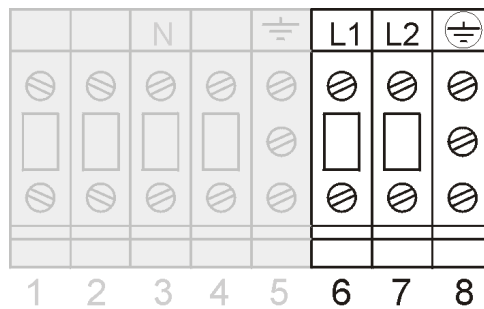

Figure 10. LP11 924 6&10 kVA:
3. Connect the utility supply wires to terminals 6 (L1), 7 (L2) and 8 (equipment grounding conductor). See figure 10. Ground connection is essential!